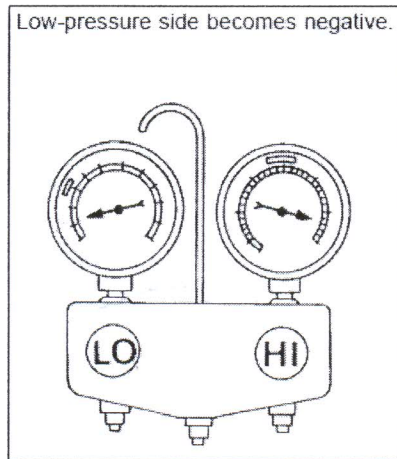

Figure 2
- (b) What will be the assumption that you can make from the figure 2 reading? What is the possible cause **AND** explain the correct action to be taken.